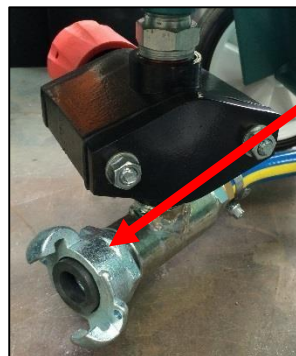

FIGURE 21
- 3.8.4 Re-connect the blast hose coupling to the abrasive control valve coupling by placing the two coupling faces together and rotating the hose coupling clockwise until the coupling lugs lock into position. Refit the safety locking pin through the 2 holes provided. See figures 21 & 22.